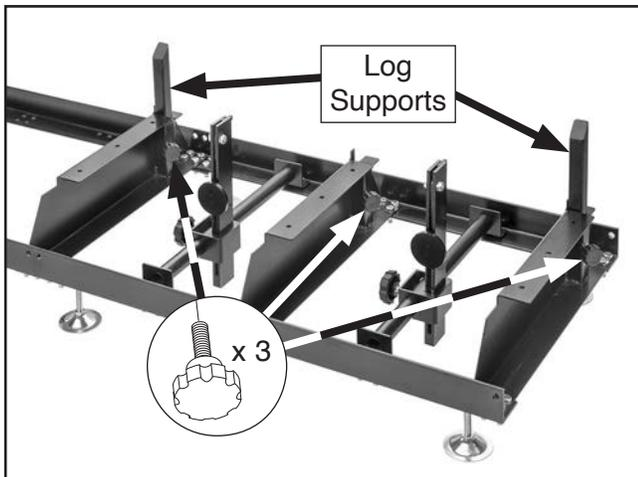

Figure 24. Log supports installed.
18. Insert log supports in log bunks and secure with (2) $\frac{5}{16}$ "-18 x $\frac{5}{8}$ " knob bolts, as shown in **Figure 24**.
19. Thread remaining $\frac{5}{16}$ "-18 x $\frac{5}{8}$ " knob bolt into log bunk shown in **Figure 24**.